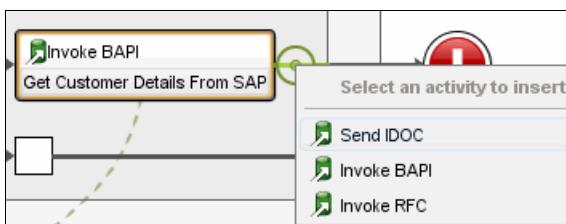

Figure 10-102 Create SAP update activity
- Select **Invoke BAPI**, as shown in Figure 10-102.